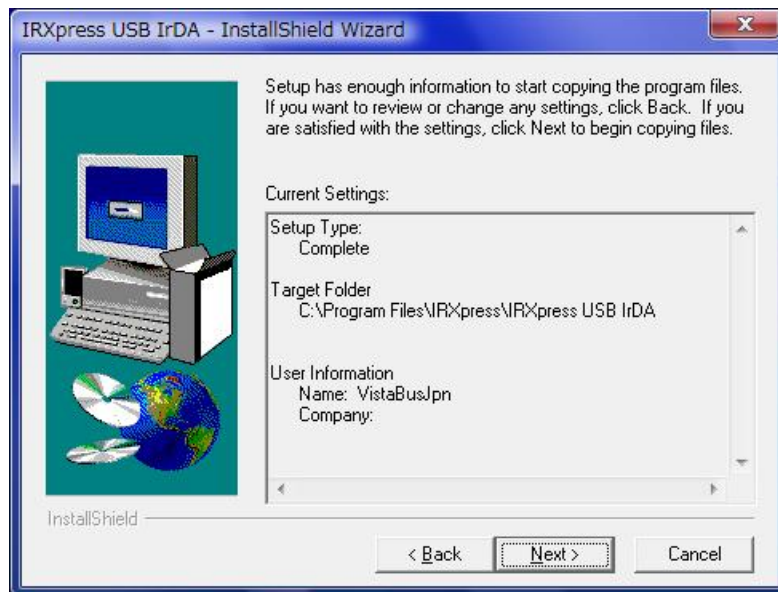

Figure 5.12
5. If all detail is okay in Figure 5.12, click **Next >** button. The screen below appears to indicate the completion of installing the driver.